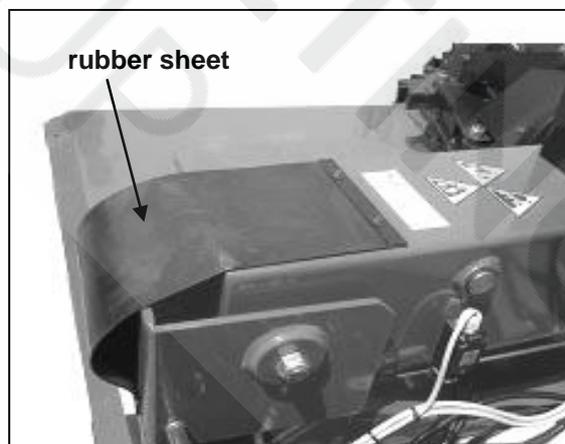

Fig22 Chuck protective rubber sheet
2) Chuck protective rubber sheet (Fig22)